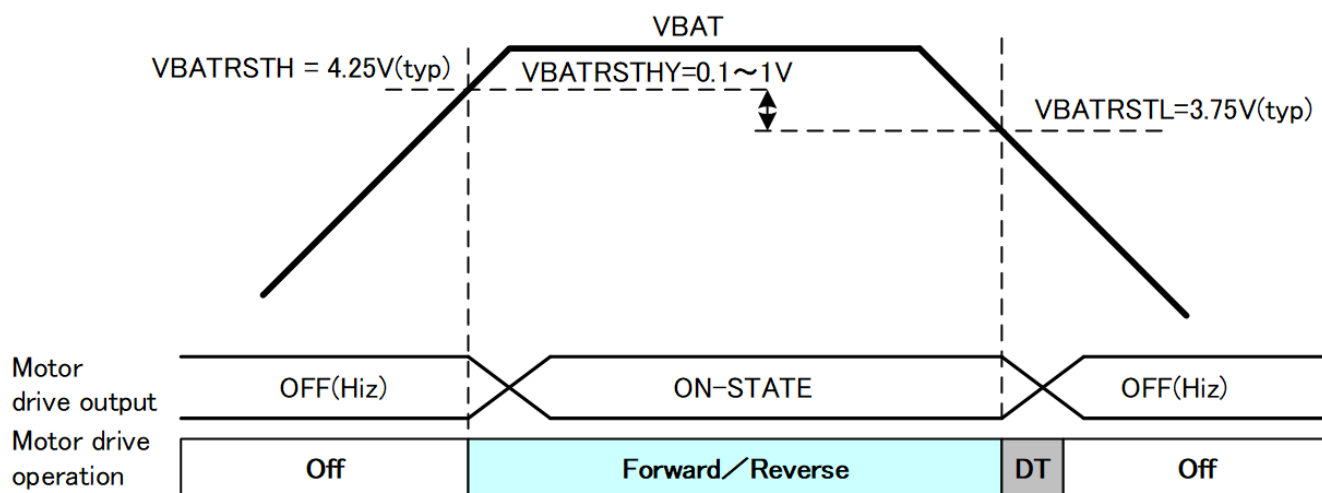
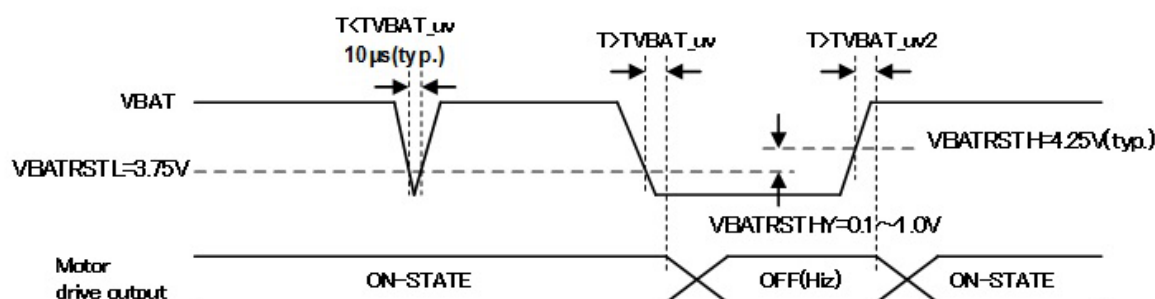

Figure 7.35 VBAT under-voltage detection threshold characteristics
Figure 7.36 VBAT under-voltage detection timing chart 1
7.13.1. VBAT under-voltage detection circuit (see Figure 7.35 and Figure 7.36)